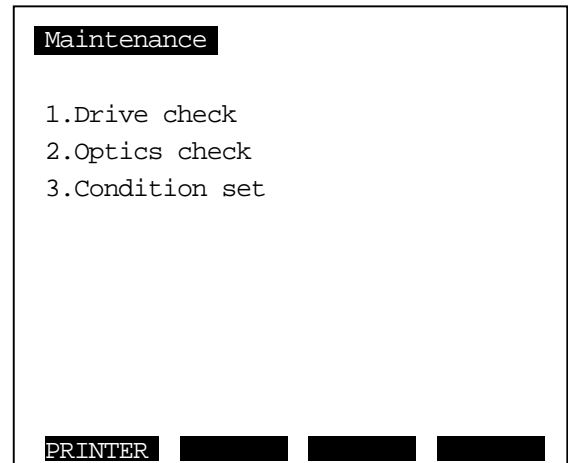

Fig.7-7 Maintenance mode screen
- 1) Pull out CPU PCB from right side of main unit (see item 1 of 7.5).
- 5) The instrument starts up in maintenance mode (see Fig. 7-7). Select **“3. Condition set”** at this screen.